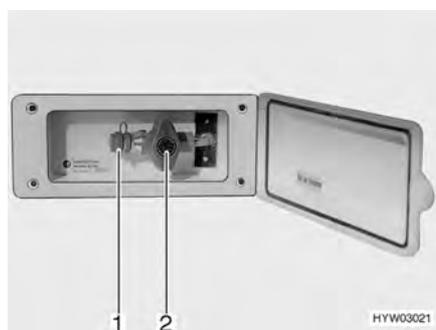

Fig. 97 External gas connection, gas isolator tap closed
The external gas connection (Fig. 97) is located at the rear or to the left or right of the vehicle depending on the model.
- Connect the external gas device to the connection point (Fig. 97,1).
- Open the gas isolator tap (Fig. 97,2).